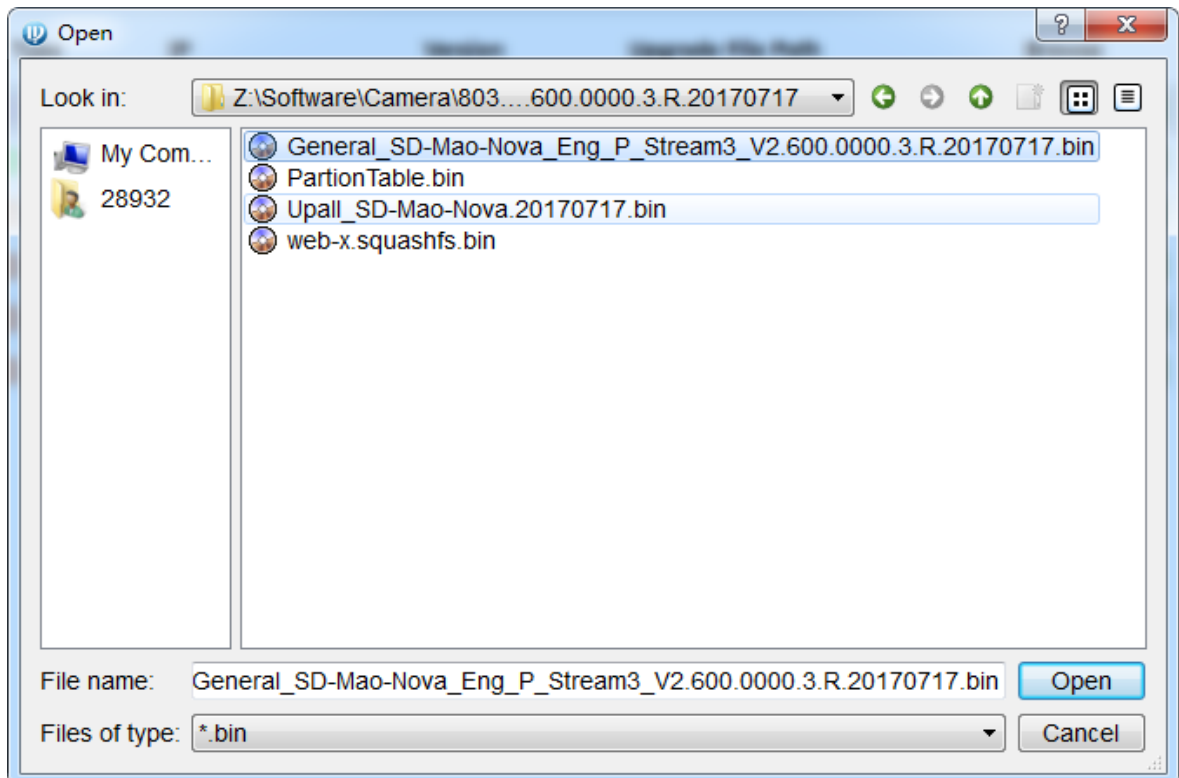

Figure 5-3
Step 7 Select upgrade file, as shown in Figure 5-3.